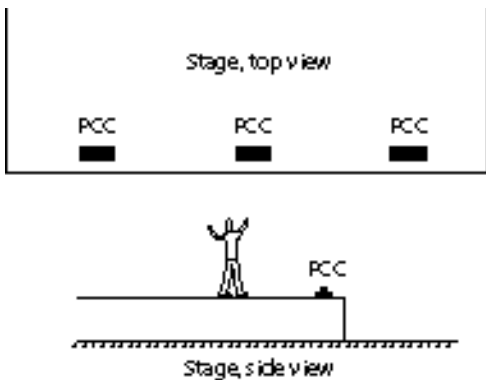

Fig. 18
- Try one to three PCC-160s across the front edge of the stage, about 1 foot from the edge of the stage (Fig. 18). One or two PCCs are usually sufficient for small stages, and they clearly pick up stage action for dressing-room cues. Place two PCCs about 20 feet apart; place three PCCs about 15 feet apart.